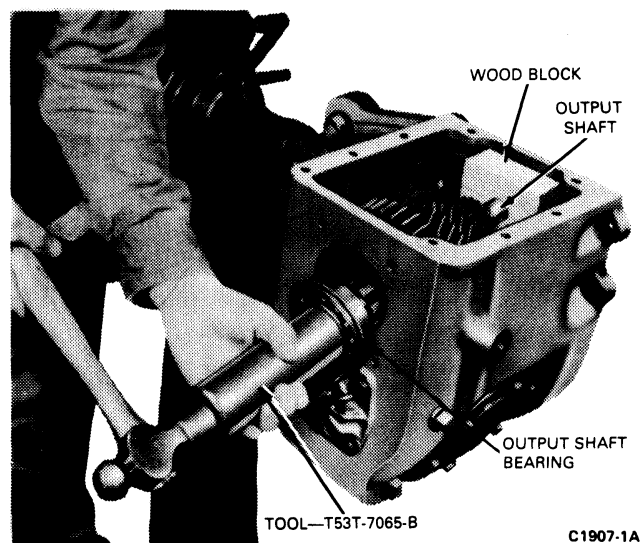

FIG. 10 Installing Output Shaft Rear Bearing
9. Place a wood block in the front of the case as shown in Fig. 10. Drive the bearing onto the rear of the output shaft while holding the front of the shaft against the block.